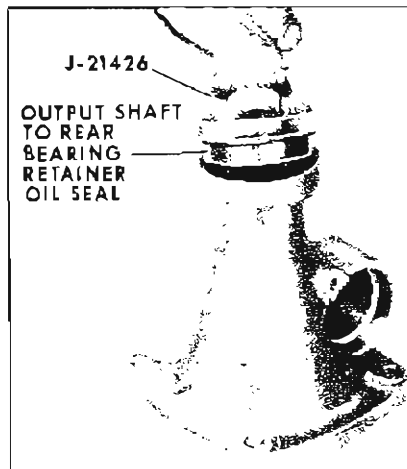

Figure 5-328
1. Install output shaft to rear bearing retainer oil seal using Installer J-21426. See Figure 5-328.